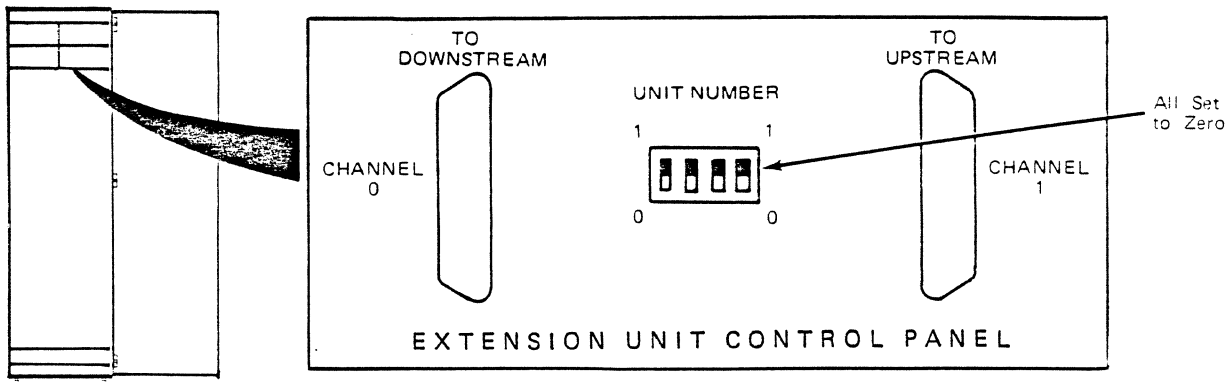

Figure 6-3. Extension Unit Control Panel
3. If there is an Extension Unit Control feature (Figure 6-3) verify that the UNIT NUMBER (frame number) dipswitch is set to 0. If necessary, set the dipswitches.